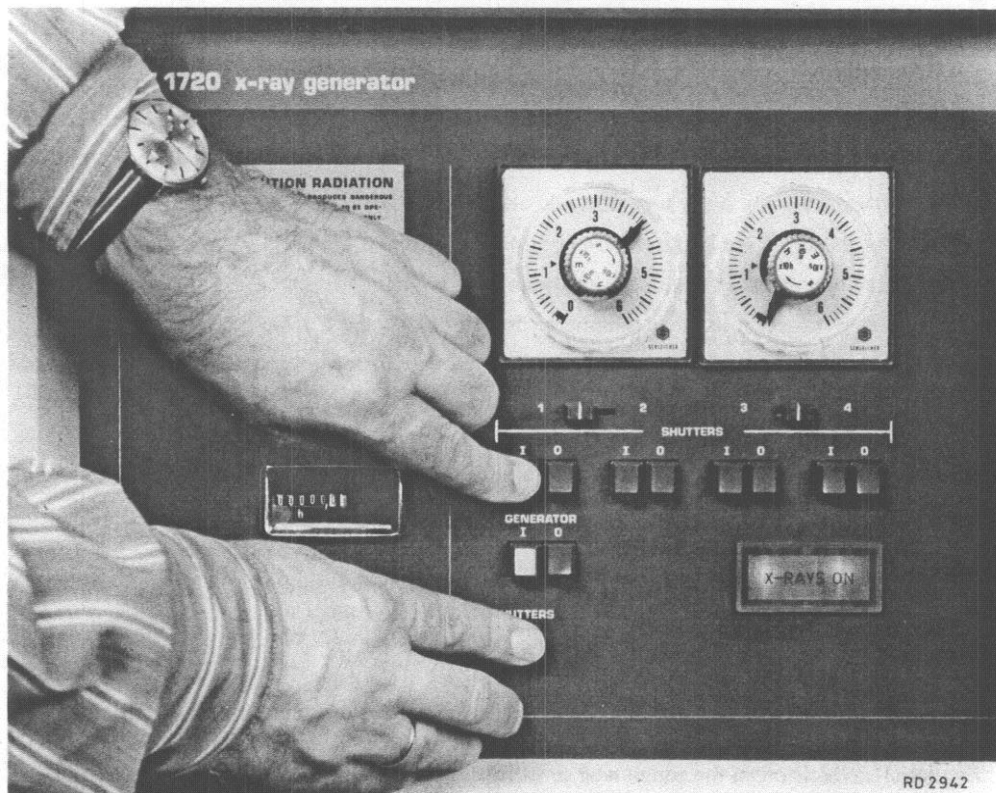

Fig. 3.1. Opening the window shutter.
- 1 Open the shutter by simultaneously pressing the lowest SHUTTERS push-button, and the SHUTTERS I push-button corresponding to the window shutter which is to be opened, refer to figure 3.1. The shutter will remain open until the timer exposure time has elapsed, or until the SHUTTERS 0 push-button is operated (when a timer is not fitted or used).